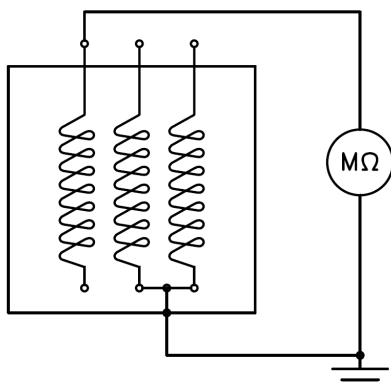

Figure 1
- **Main stator** : the measurement of the insulation resistance shall be executed after disconnecting the connections which go to the control devices (voltage control or other devices) or to any other device of the group. The measurement shall be executed between a phase and ground with the remaining two connected as well to ground (operation to be repeated for all three phases). (see **figure 1**)